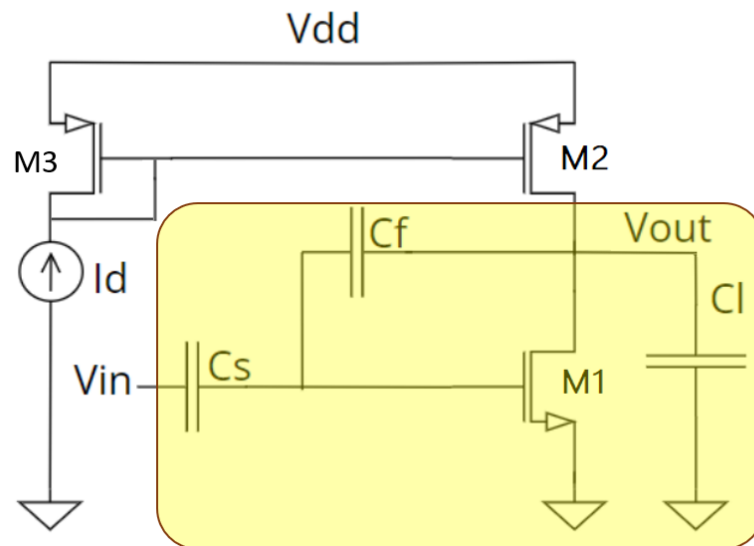

Figure 1: Schematic of the IGS with an active PMOS load and capacitive feedback network.
- Design an intrinsic gain stage (IGS) with capacitive feedback. But, instead of biasing the NMOS (M1) using a constant current source, you are asked to replace it with a PMOS (M2). You can bias that PMOS using a constant voltage source or a diode-connected PMOS (M3) sourced by a constant current source (Fig.1).
- Optimize the ratio **gm_p/gm_n** to maximize your **dynamic range (DR)** $DR = \frac{P_{out}}{P_{n,out}}$ (assume sinusoidal signal for P_{out}).